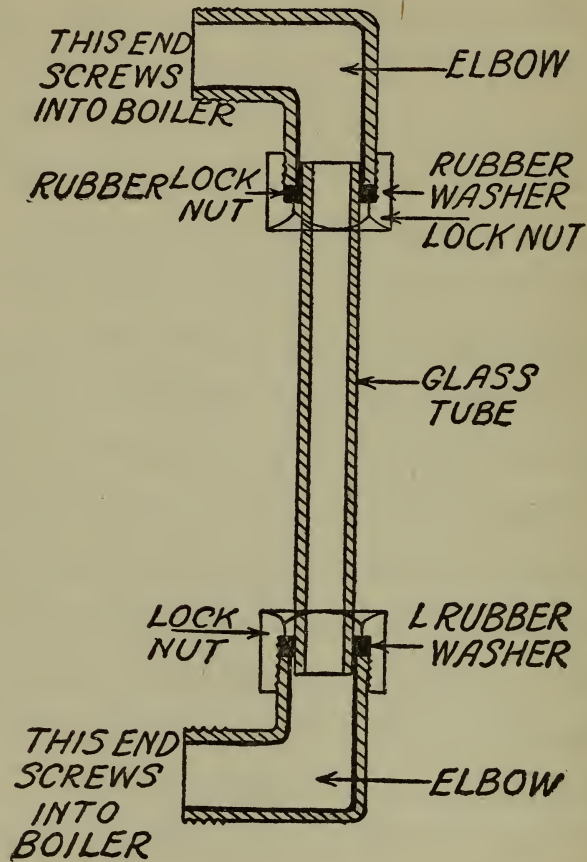

Fig. 53. Cross Section of a Water Gauge
*A Spring or Pop Safety Valve.*—A spring or pop safety valve is used on locomotives and you can easily make one for your model. If you will take a look at Fig. 53, which shows a cross-section view of the locomotive boiler, you will see that the safety valve pipe which leads through the steam dome outside is  $\frac{1}{8}$  inch in diameter and the end of this pipe must be threaded.
To make a water gauge for the boiler take two  $\frac{5}{16}$ -inch elbows and fit each one with a lock nut as shown in Fig. 53. Get a length of thick glass tubing for the water glass with an outside diameter just large enough to fit the inside of the lock nuts and elbows.